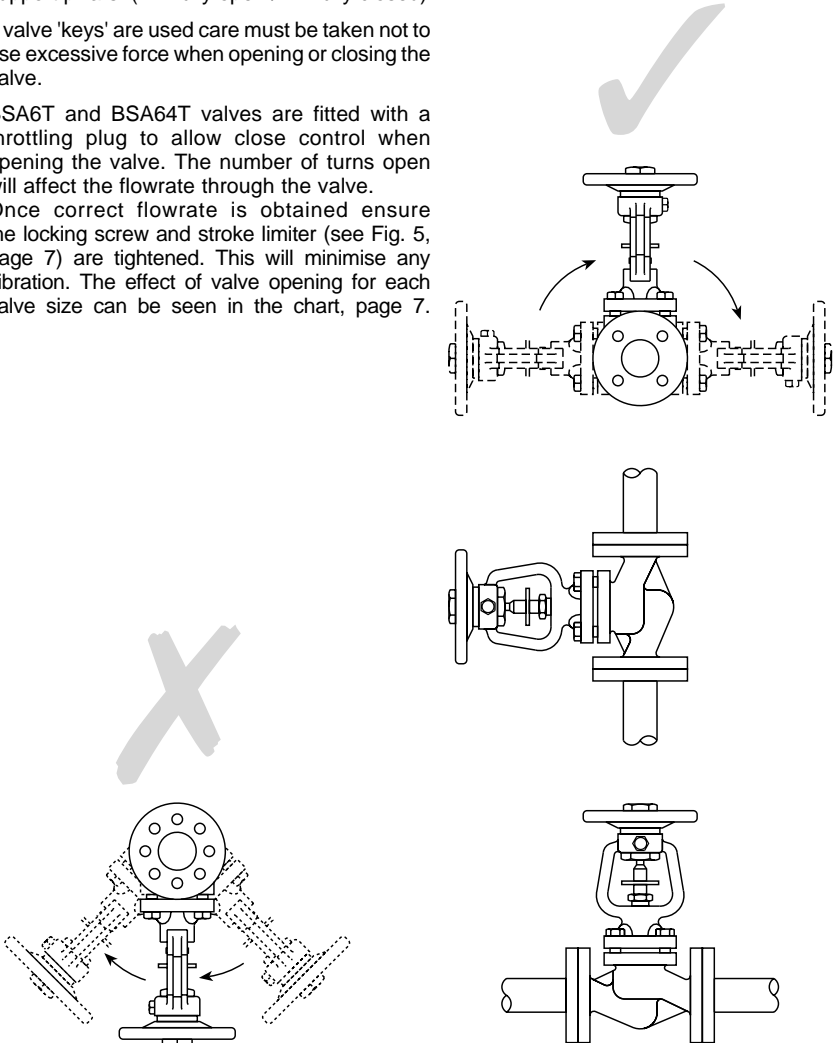

Fig. 4 Incorrect installation
- 3.3** Install the valve in the direction of flow given by the arrow on the body. The preferred position is with the spindle vertical. The valve can be installed from the vertical to the horizontal plane (see Figure 4, page 6).